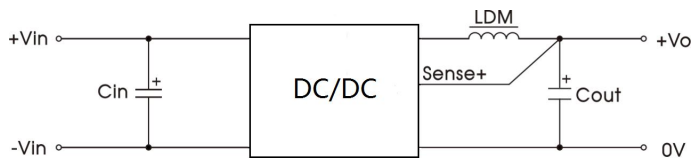

Fig. 2
Notes: ① The method is used for ripple and noise test, please refer to Fig.2 and DC-DC Converter Application Notes for specific information;
② Over-temperature protection for product is output off.
(1) During product testing and application, please follow the recommended test circuit (Fig. 2); At least one electrolytic capacitor C_{in} is guaranteed to be connected externally to suppress the possible input surge voltage; An external inductor and electrolytic capacitor are connected to output for output filtering;
(2) If the input terminal of the product is connected in parallel with a circuit with large transient energy (such as a parallel motor drive circuit), the input voltage of the product may be pulled down. At this time, pay attention to the fluctuation of the input voltage of the product, and it is recommended to appropriately increase the capacitance of the electrolytic capacitor C_{in} at the input terminal to ensure the stability of the input terminal voltage and avoid the situation where the input voltage is lower than the under-voltage protection point and cause the product to restart repeatedly;
(3) If the input and output ripple needs to be further reduced, C_{in} and C_{out} capacity of external capacitors can be appropriately increased or external capacitors with small series equivalent impedance can be selected.